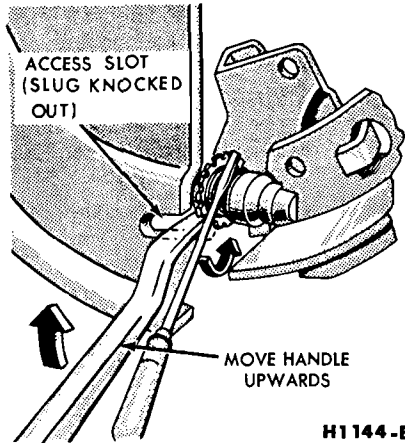

FIG. 15—Backing Off Brake Adjustment
2. Remove the drum. If the drum will not come off, knock the access slug out of the brake carrier plate, using a punch. Insert a narrow screwdriver through the slot and disengage the adjusting lever from the adjusting screw. While holding the adjusting lever away from the screw, back off the adjusting screw with the brake adjusting tool (Fig. 15). Be very careful not to burr, chip or damage the notches in the screws; otherwise the self-
hole in the carrier plate, and disengage the adjusting lever from the adjusting screw. While holding the adjusting lever away from the adjusting screw, back off the adjusting screw with the brake adjusting tool (Fig. 15). Be very careful not to burr, chip or damage the notches in the adjusting screw; otherwise, the self-adjusting mechanism will not function properly.